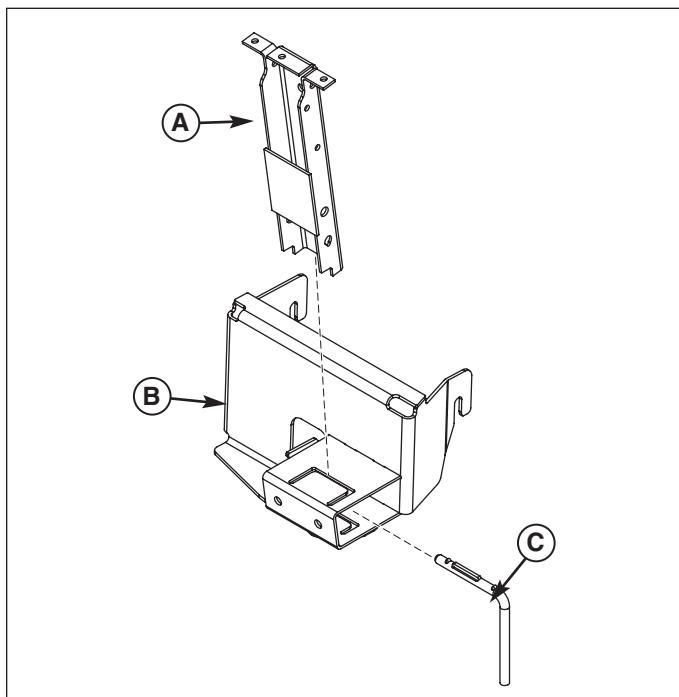
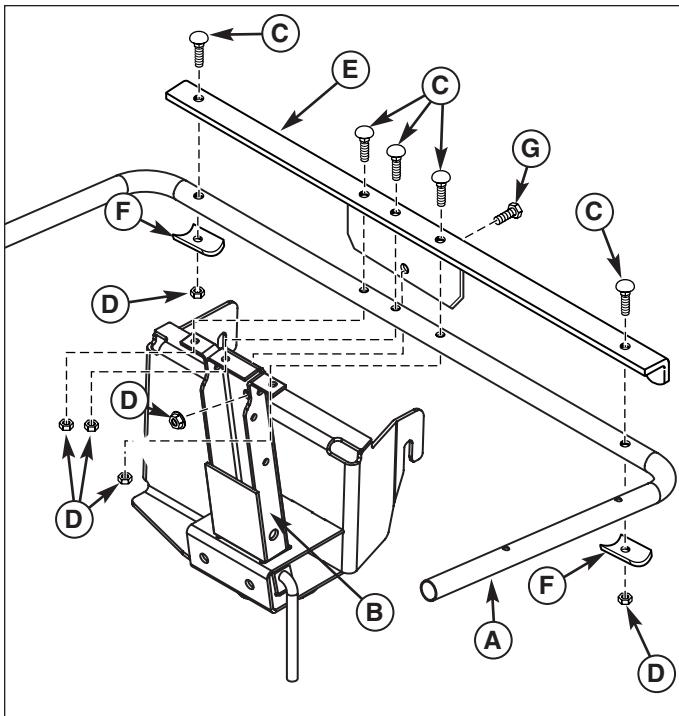

Figure 7. Install Channel Assembly
Figure 8. Install "U" Tube
1. Slide the channel assembly (A, Figure 7) into hitch (B) as shown.
2. Install the pin (C) into the right side of hitch (B) and turn pin (C) counterclockwise to lock in place.
3. Install the "L" channel (E, Figure 8) and "U" tube (A) to channel assembly (B) as shown. Secure with 5/16-18 x 1-3/4 carriage bolts (C), saddle clamps (F), and 5/16-18 nuts (D).
4. Install 5/16-18 x 3/4 capscrew (G) and 5/16-18 locknut (D) as shown.